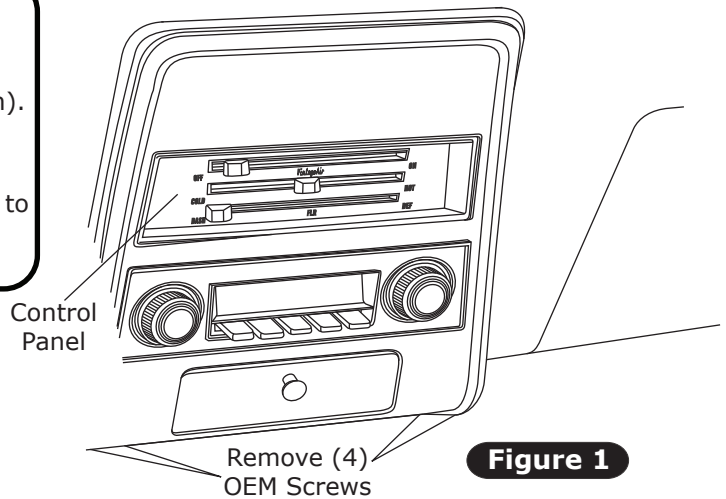

Figure 1
1. Remove (4) OEM screws from the dash bezel, under the dash (retain) (See Figure 1, below).
4. Remove the (2) screws securing the OEM fan switch to the top of the control panel. Remove the fan switch from the control panel (discard).